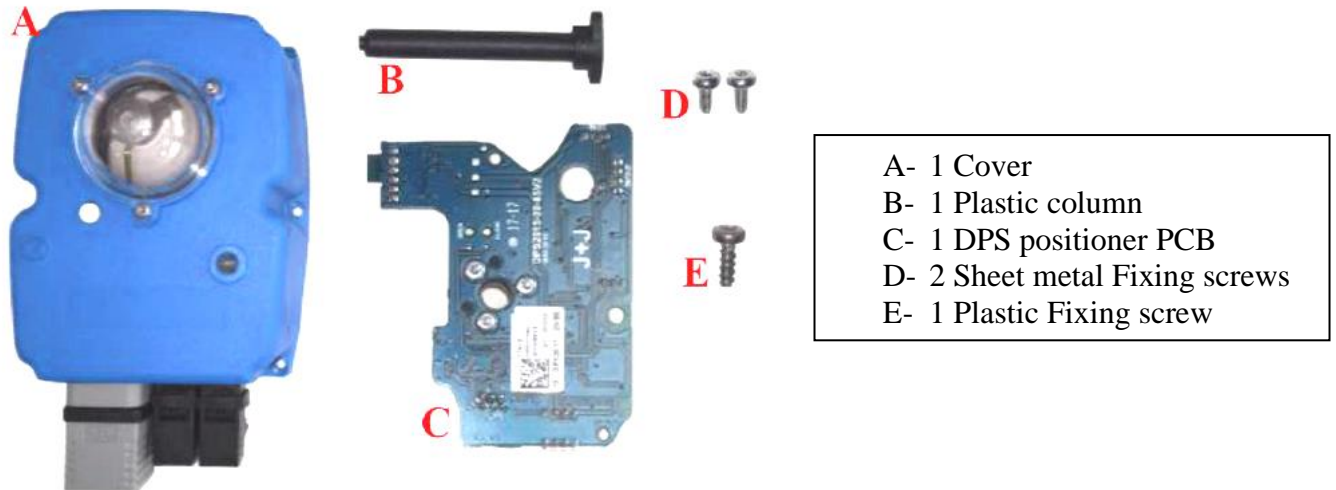

Figure 1
- **Verify that the Kit is compounded from all parts (see Figure 1).**